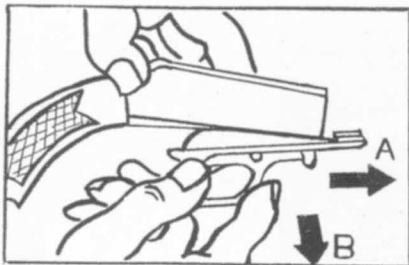

Fig. 7
1. After making sure the rifle is unloaded and removing the barrel, push the trigger guard (Fig. 7) forward about $\frac{3}{4}$ of an inch. Then pull the rear end of the trigger guard out of the receiver about 1 inch and draw the mechanism to the rear and out. This procedure removes the entire trigger assembly and breechblock and is ordinarily sufficient disassembly for normal cleaning.